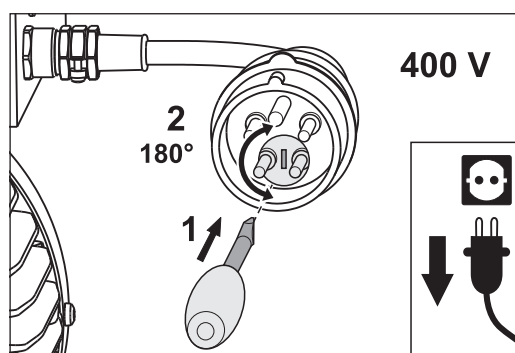

Fig. 18 Change the rotation direction of the motor by turning the phase changing switch at 180°.
- 2 Put a screwdriver in the slit of the phase changing switch in the plug of the motor cable (Fig. 18, 1).
To unlock the phase changing switch press the screwdriver in the slit and at the same time turn the screwdriver at 180° (Fig. 18, 2).
To unlock the phase changing switch turn the screwdriver at 180° against a small resistance (Fig. 18, 2).